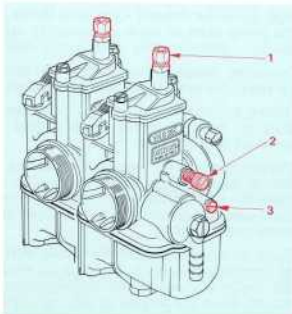
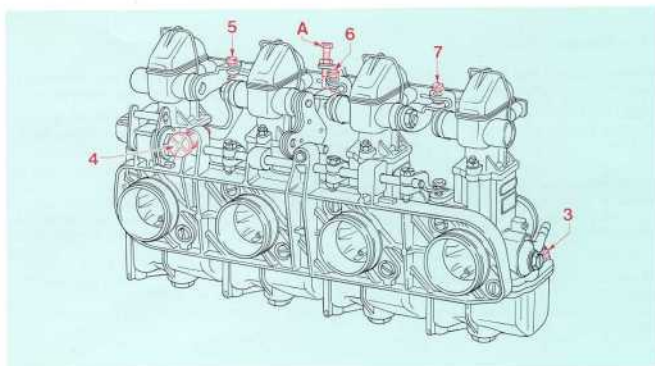

fig. 31
fig. 32
- with carburetors **separated** (figure 31) and therefore with a throttle cable each.
- with carburetors **mounted together** in a rigid group by means of a suitable flange (figure 32) and with a single control cable.
Make sure, both for independent (figure 31) and grouped carburettors (figure 32), that each throttle cable has about 1mm free play at idle.
- start the engine and when it has reached normal running temperature, adjust the idle speed to about 1000 rpm using the throttle adjusting screw (2) in figure 31 or screw (4) in figure 32.
- for independent carburetors (figure 31) align the mercury column levels using the throttle adjusting screws (2) on each carburettor.
- for carburetors mounted together in a group (figure 32) align the mercury column levels with the level of the carburettor connected directly to the throttle control, adjusting the balance-adjusting screws (5), (6), (7).
- then adjust the mixture screws (3) of each carburettor to obtain the fastest even running.
- recheck the alignment of the mercury columns and then reset the engine to the desired idle speed using the throttle adjusting screw (2) in figure 31 or screw (4) in figure 32.
- for independent carburetors (figure 31) check that the alignment of the mercury columns is unaffected by slightly opening the throttle. If it is, adjust the individual cable-adjuster screws (1) to correct this.